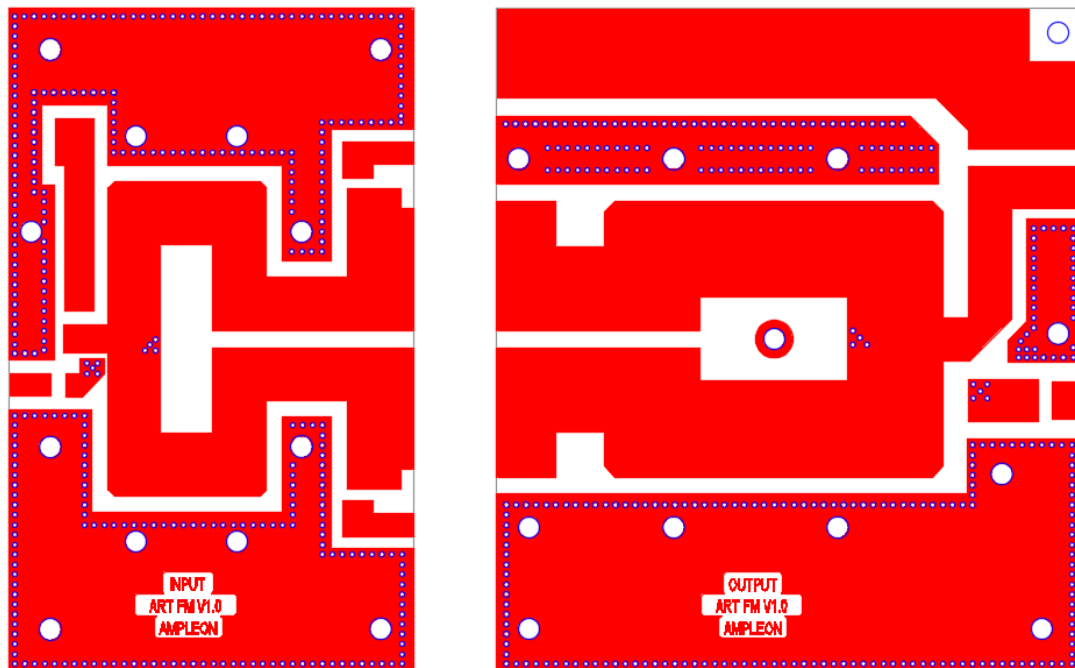

Figure 4 PCB layout top layer
- Figure 4 PCB layout.....top layer 7